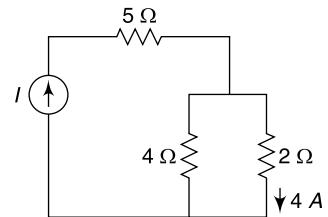

Fig. 4.175
14. Obtain the source current I and the power delivered to the circuit in Fig. 4.175.